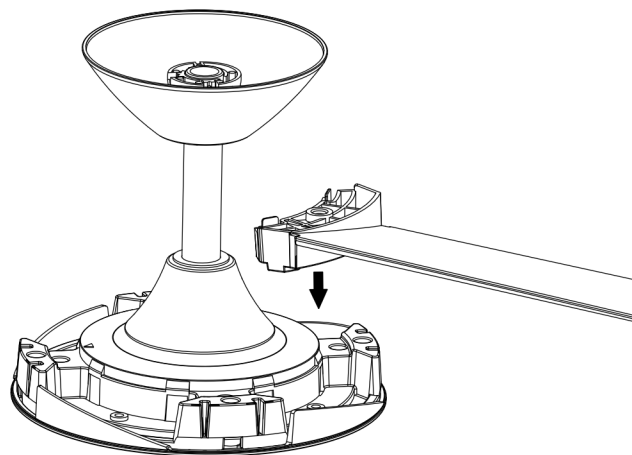

Fig. 3.2
2. Install the fan blades onto the motor assembly; (Fig.3.2)